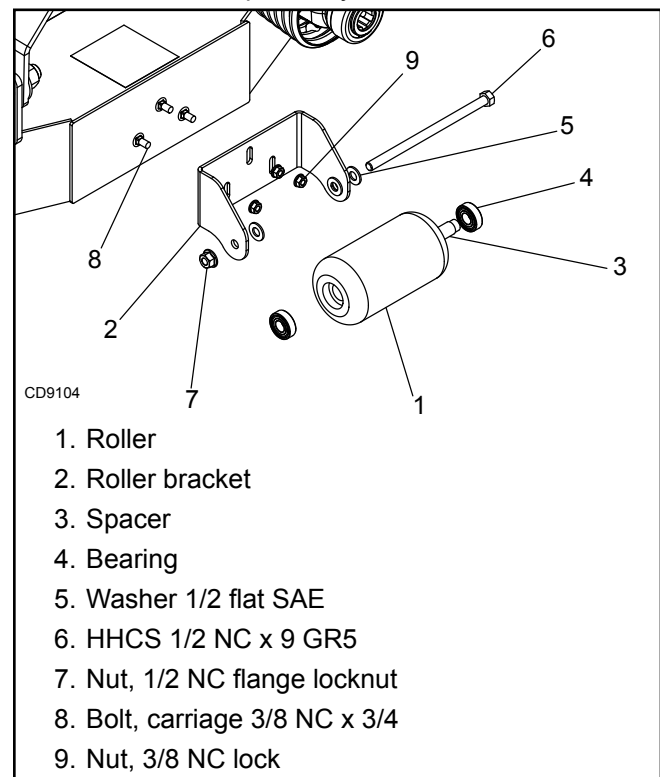

Figure 35. Front Roller Installation
1. Insert three carriage bolts (8) through the front mower frame from inside out.
2. Place roller bracket (2) over bolts; then install flange lock nuts (9) on bolts and tighten.
3. Place front roller (1), spacer (3), bearings (4), and washers (5) in roller bracket as shown in Figure 35.
4. Insert cap screw (6) through bracket and roller.
5. Secure with flanged lock nut (9). Do not over-tighten; roller must spin freely.
2. Use opposite roller angle bracket for drill template. Position RH roller angle bracket (7) at LH rear corner of deck. Position LH roller angle bracket (8) at RH rear corner of deck. Insert carriage bolts (5) through center bracket hole and chain shield hole in deck. Retain with flanged lock nuts (6).
4. Unbolt roller angle brackets and swap to their proper side. Reinstall each bracket using chain shield hole and bracket hole for the widest spacing. Use carriage bolts (5) and flanged lock nuts (6) to retain. Mark inboard-most mounting hole for each roller bracket. Use drill and 7/16" drill bit to drill through deck plate. Install second carriage bolt (5) thru bracket and retain with flanged lock nut (6).
5. Install plastic roller (2) and two flat washers between roller angle bracket and side frame as shown in Figure 35. Install 1/2 x 6 cap screw (1) through side frame, roller, and then angle bracket. Retain with flanged lock nut (3). Do not over tighten. Rollers must turn freely.